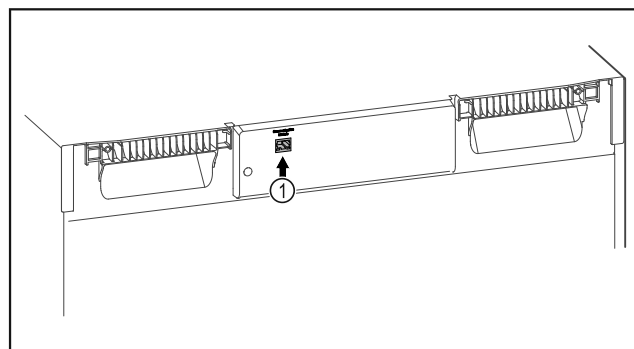

Fig. 127
- ☐ SmartModule Fig. 127 (1) is in use.